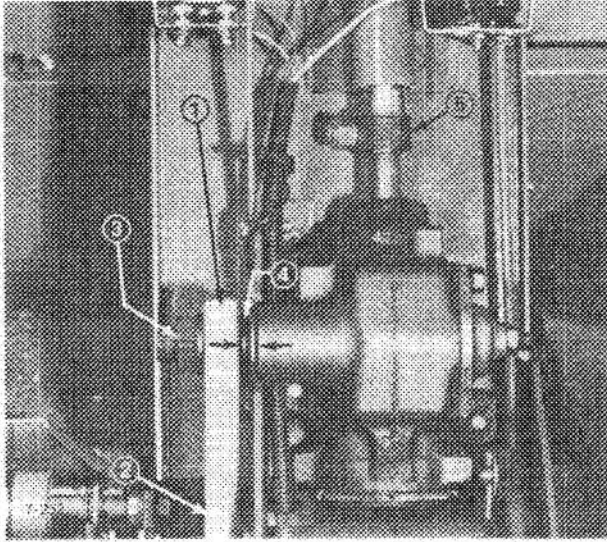

Figure 34
2. Mark steering arm and steering gear shaft (Fig. 34) so arm can be installed in the same place when parts are assembled.
3. Remove cotter pin and slotted nut holding steering control rod and steering arm together (Fig. 34). Separate ball socket at end of control rod from steering arm.
4. Remove large nut and lockwasher holding steering arm on gear box shaft (Fig. 34). Use a puller to remove the arm from the shaft.
5. Loosen steering-clamp carriage bolt and locknut (Fig. 34) until clamp can be moved.
3. Slide steering arm onto steering shaft and ensure the alignment marks — made when parts were removed — are in line. Secure arm on shaft with lockwasher and large nut (Fig. 34). Tighten nut until inside of arm is 5/8 in. (16 mm) from the steering gear, which should allow clearance for the steering linkage.
4. Slide ball socket at end of steering control rod through steering arm. Secure parts together with slotted nut and cotter pin (Fig. 34).